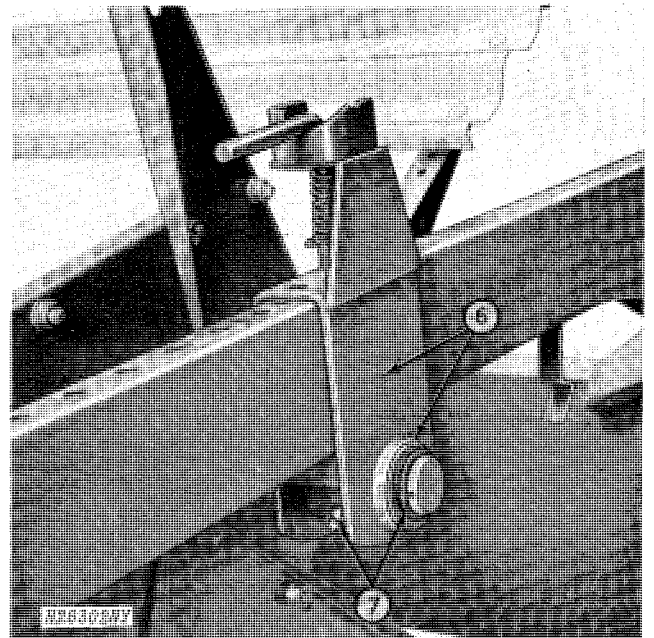

Fig. 59-Left-Hand Support Bracket
6. Slide left-hand reel support bracket on reel shaft (Fig. 59). Place 1-15/32 x 2 x .105-inch flat washer on each side of the support bracket.
7. Secure support bracket to reel shaft with snap ring (Fig. 59) and install grease fitting.